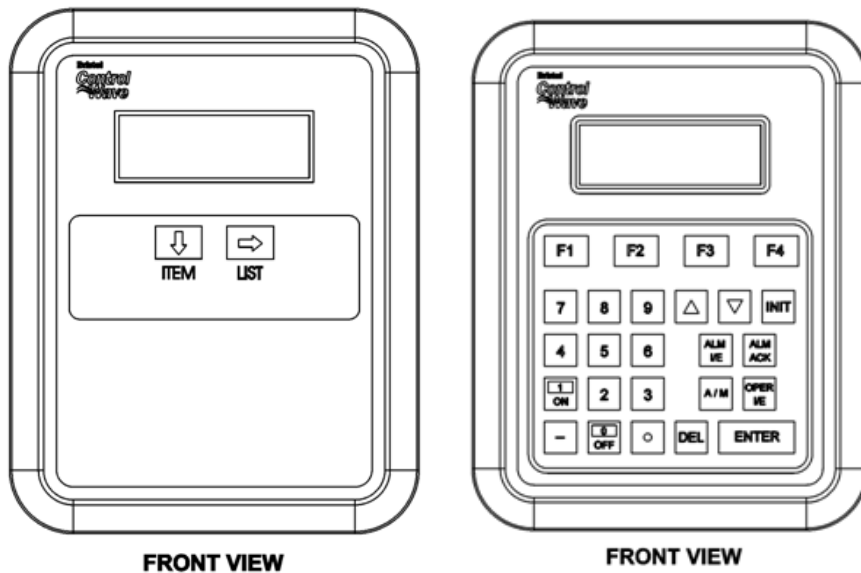

Figure 2-28. Optional 2-Button and 25-Button Keypads
- A 2-button keypad (shown in the left of Figure 2-28)
- A 25-button keypad (shown in the right Figure 2-28)